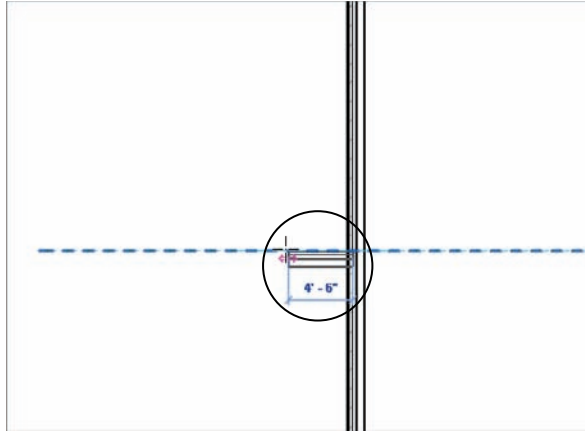

FIGURE 2.6 Drawing a single wall from a defined starting point
5. Start drawing your new wall from the intersection of the west wall (the one on the left) and the upper reference plane, as shown in Figure 2.6. Make sure you're using the face of the wall and not the ledge below. The enlargement in Figure 2.6 can help you.